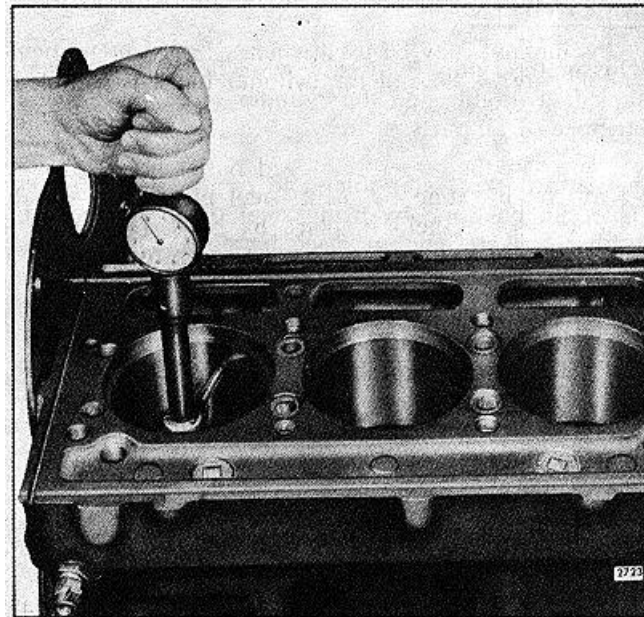
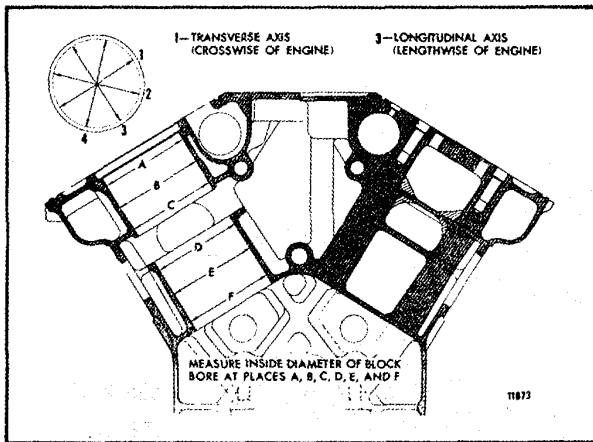

FIG. 8 - Checking Bore of Cylinder Block with Tool J 5347O01
FIG. 9 Cylinder Block Bore Measurement Diagram
b. Measure the entire bore of each cylinder with cylinder bore gage J 5347-01 (Fig. 8) which has a dial indicator calibrated in .0001 " increments. The standard block bore is 4.6260" to 4.6275". Place the bore gage in the master ring gage J 8386-01 which has an I.D. of 4.6270" and set the dial to zero. Take measurements on the cleaned-up surface only at positions A, B, C, D, E and F in the bore on axes 45° apart (Fig. 9). Read the measurements from the zero mark on the gage. The readings may be recorded on a form similar to the one illustrated (Fig. 10).